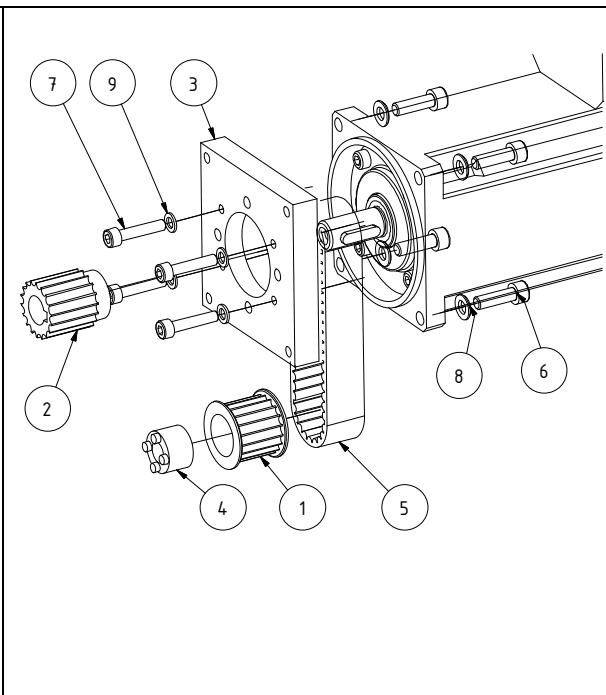

Figure 2: Parallel motor
- ◆ Tighten 4 screws (Fig. 2 Pos. 7) with the given tightening torque.